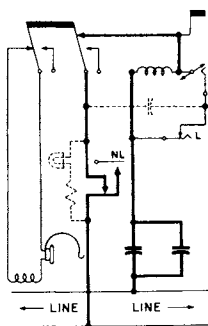

Figure 3. Circuit with key normal.
- a. Normal (slanting 45°): For tone tests including identity, direction, and estimated distance of fault. Finder coil is usually used with the lever key in this position. Figure 3 is a partial schematic of this circuit.